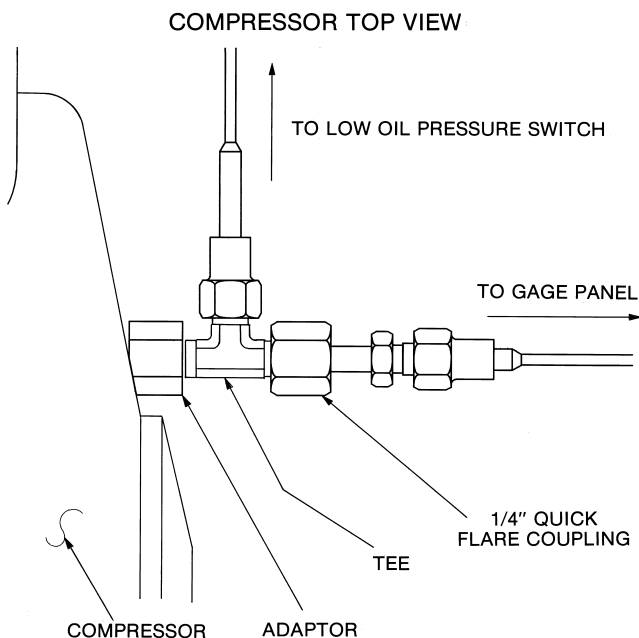

Fig. 8 — Typical Lead Circuit Suction-Side Connections on 38AH044-084 Single-Circuit Units and 38AH024-134 Dual-Circuit Units (Each Compressor)
2. Hold gage panel(s) against basepan as shown in Fig. 8. Mark screw hole positions.
NOTE: 38AH044-134 units come with a lead compressor suction-side connection port that has a check valve. See Fig. 8.
3. Tighten the coupling to 7 to 8 ft-lb (5 to 5.9 n-m) of torque (8 ft-lb [5.9 n-m] maximum). See Fig. 8. The flare couplings depress the check valves within the tees (or Schrader fitting) to allow refrigerant flow.